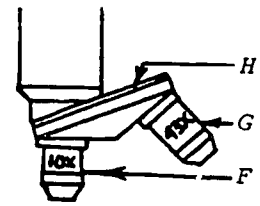

FIGURE 4
3. Note Figure 4. Find the labeled parts on your microscope.